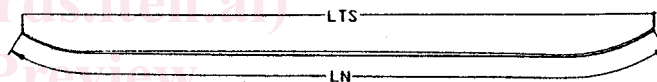

FIG. 2 Side View of Snowboard, Pressed Against a Flat Surface
**chord length**—(LTS) the straight-line distance between the snowboard tail and the snowboard tip with the snowboard pressed flat to a plane surface to take out the camber (Fig. 2).
**developed length, LN**—the bottom contour length from the snowboard tip to the snowboard tail, sometimes called the material length (Fig. 2).